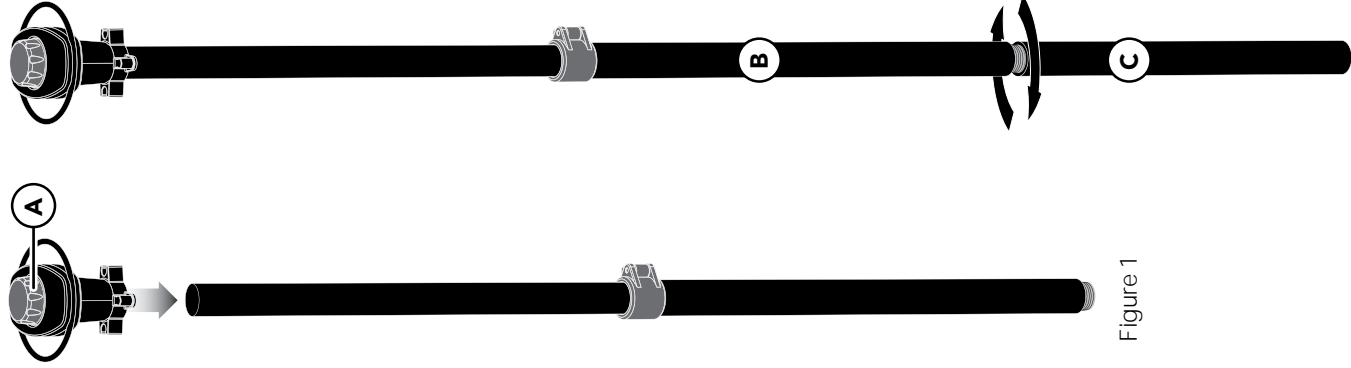

Figure 1
- 1.** Push the Pole Top onto Pole B and tighten using the Pole Top Cap (A) (Figure 1).